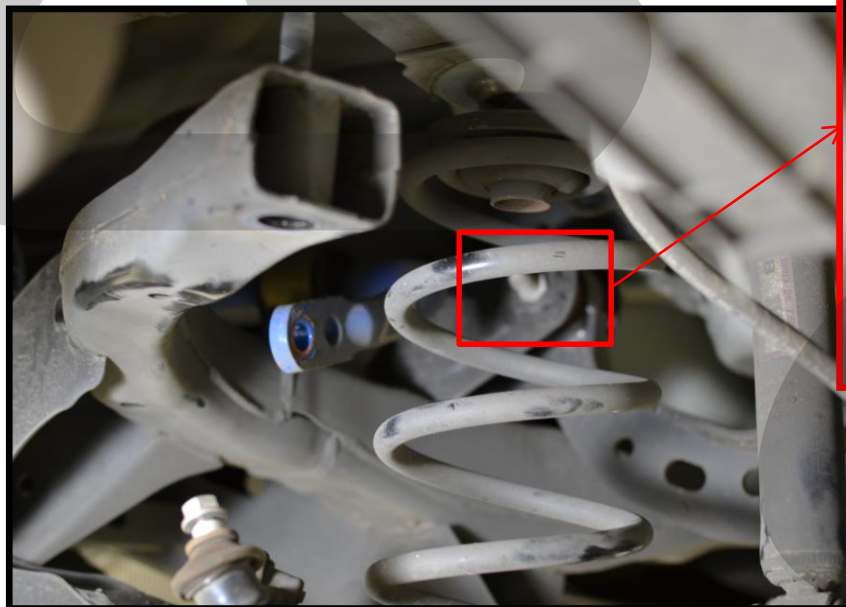

Figure 2d
- d) Lower the passenger side of the sub-frame enough to expose the inboard side of the upper control arm. *Shown in Figure 2d.*